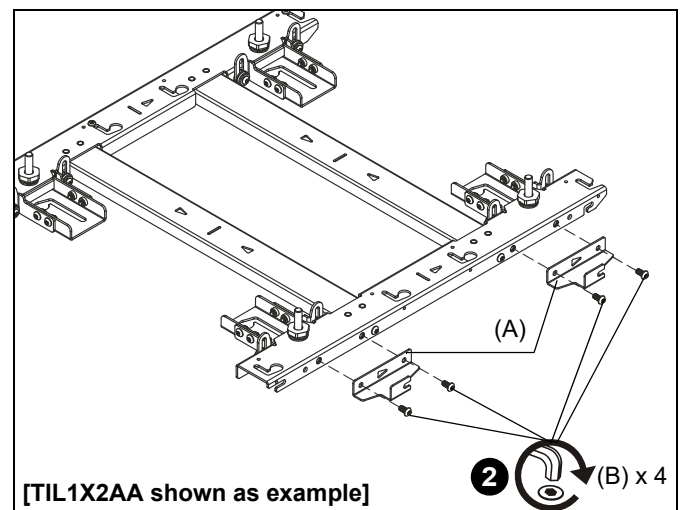

Figure 3
1. Lay mount on floor and place horizontal connectors (A) against right edge of wall mount. (See Figure 3)
2. Attach two connectors to each wall mount using two 1/4-20 x 1/2" button head cap screws (B) per horizontal connector. (See Figure 3)